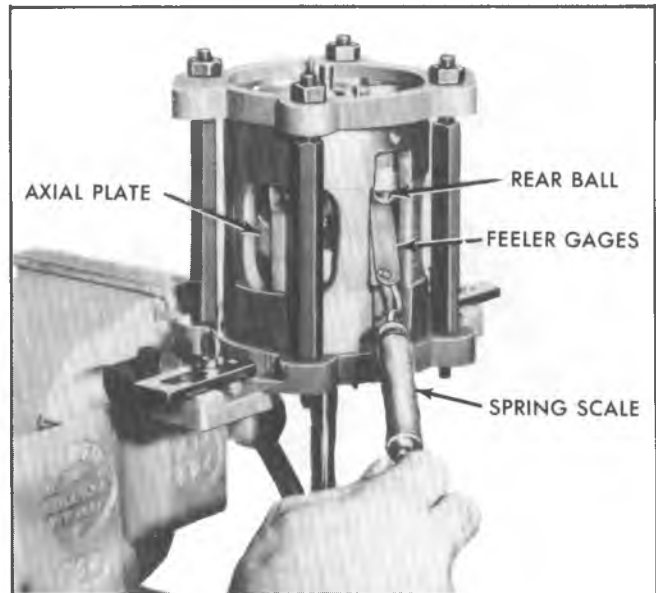

Fig. 40--Gaging Rear Piston Ball
- c. Pull on Spring Scale to slide Feeler Gage stock out from between ball and axial plate, and note reading on Spring Scale as Feeler Gage is removed (Fig. 40). **Reading should be between 4 and 8 ounces.**